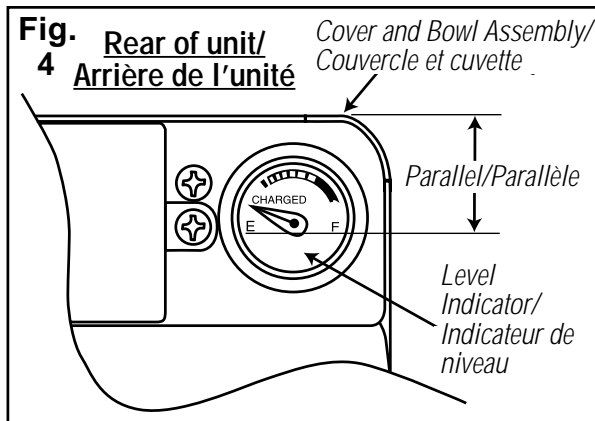

Fig. 4
- 8) Align Empty and Full marks parallel to rear of unit (Fig. 4).